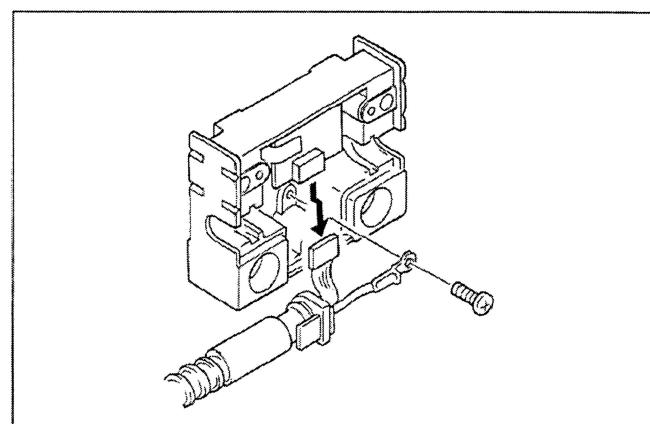

Fig. 4
### **Disconnecting the cable (Fig. 4)**
1. Pull out the cable connector, which connects the cable to the preamplifier, in the direction of the arrow as shown in Fig.4 to disconnect the cable